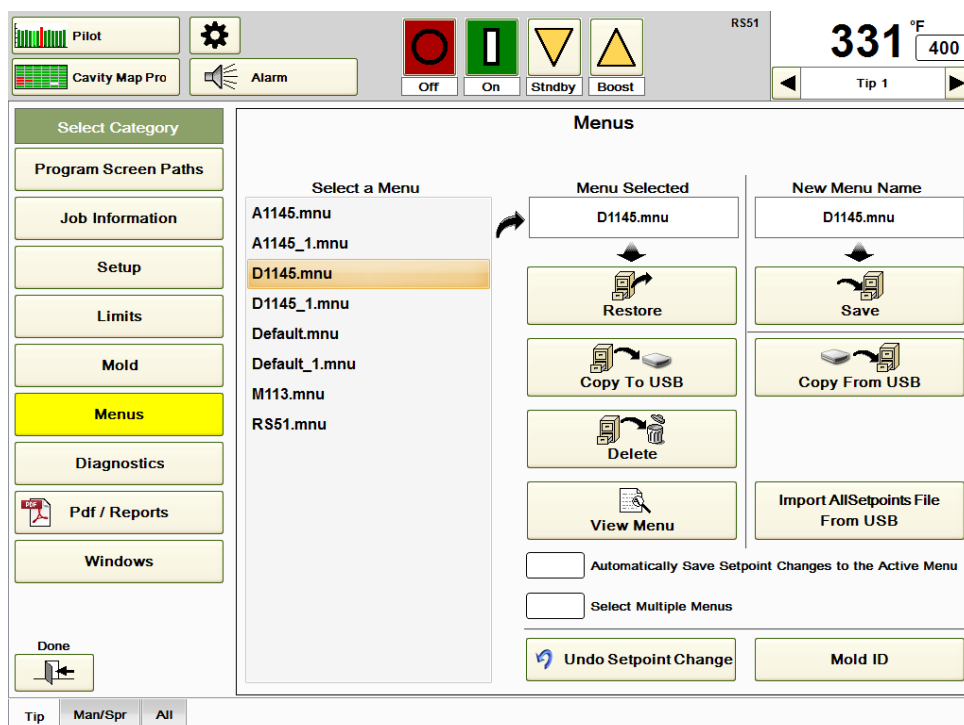

Figure 18a Menus
A menu is a file that contains a collection of zone setpoints, group settings and graph settings for all groups. Menus may be thought of as recipes for certain tools or applications. A menu includes every setting available. A user may want to set up different menus for different tools, different days (August-1.mnu), tool tests or specific part runoffs. Tool graphics are also associated with Menus. Menus should be saved once the setpoints and information have been entered on the G24 screens for a specific tool. The G24 will save each menu for future use. When the Menu button is pressed, the screen in Figure 18a appears. An Operator, Supervisor or Engineer security level is required.
The menu name that is in effect is always shown in the upper right corner of the screen just left of the Setpoint box (RS51 in Figure 18a). A "+" sign next to the menu name is displayed whenever a setpoint has been changed since the menu was last saved. If it is desirable to automatically save setpoint changes in the menu, select **Automatically Save Setpoint Changes to the Active Menu**.
Note that there are two menus shown in Figure 18a that include the word "Default". The **Default.mnu** is the current collection of all setpoints and settings being used by the G24. Every time a setpoint or setting is changed, a new Default.mnu menu is automatically created
- 1) Press the blank area under **New Menu Name** in Figure 18a.